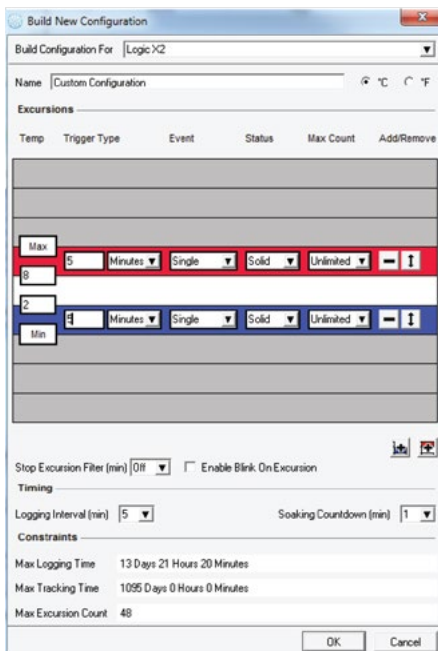

Figure 3
To create a custom profile, click 'Add' and enter the custom profile parameters (Figure 3). Once finished, click 'OK' and this profile will always be available in the custom profile section. Name the custom profile something meaningful to you for easy identification.
8. Unplug the LOG-IC from the computer. Hold the ON/OFF button until the ACTIVE light is a solid green. The tag will start recording once it has gone through the soaking countdown that was set during the configuration process (Figure 3).